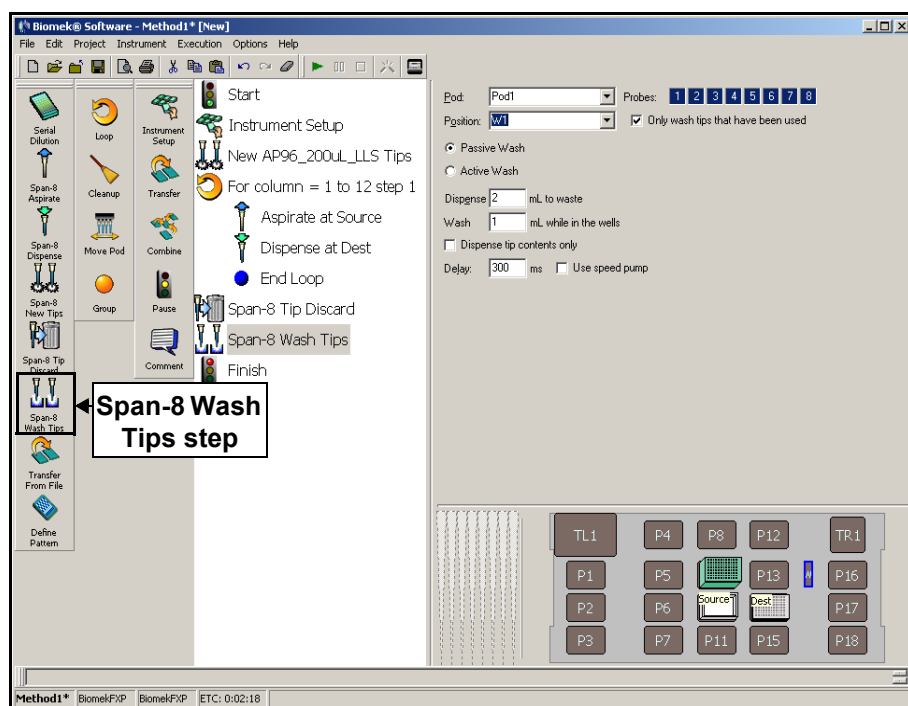

Figure 7-14. Span-8 Wash Tips step configured
5. Allow the other default settings to remain. The main editor should look like Figure 7-14.